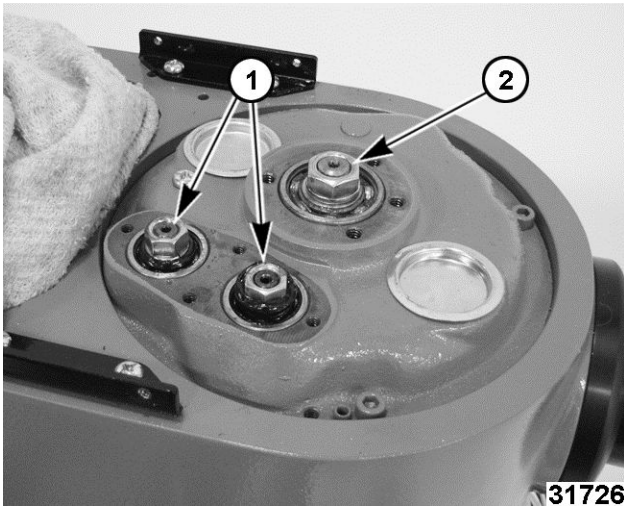

Fig. 18
- Remove transmission nuts and lock washers (1, Fig. 18).
5. Remove planetary shaft top nut and lock washer (2, Fig. 18).